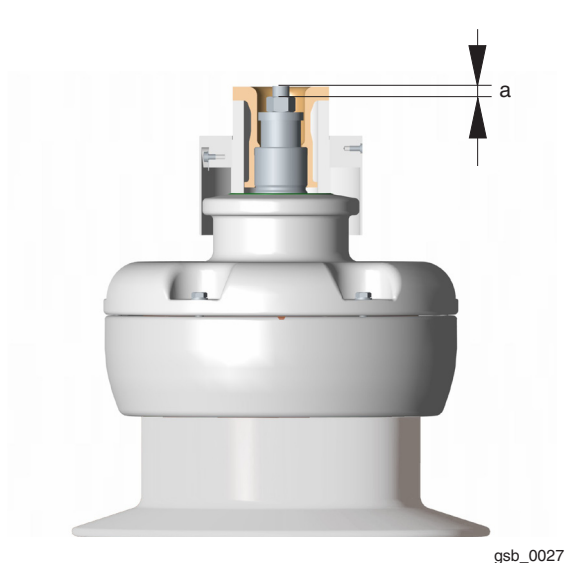

Fig. 11.
6. The washer and the nut are fastened according to tightening method A or B, see Figs. 11 and 12.